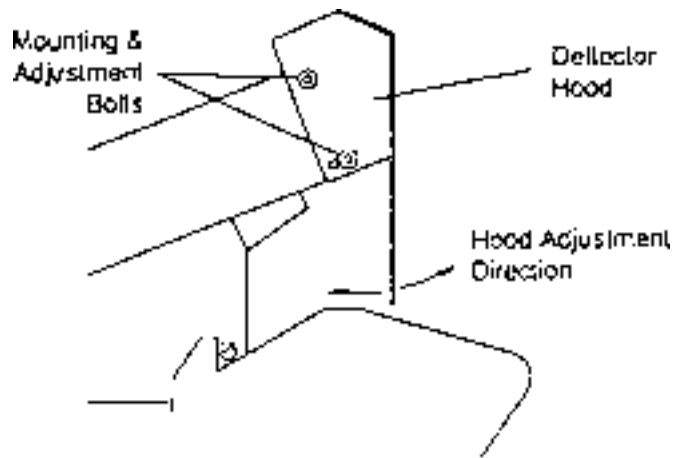

Figure 5
The **deflector hood (1)** is attached by four bolts to the conveyor frame. This deflector is used to control the distribution of aggregate into the spread hopper so that, depending on the speed of the conveyors, the aggregate lands in the center of the hopper and doesn't spill over the front edge. Adjustment of the deflector hood is shown in Figure 5.